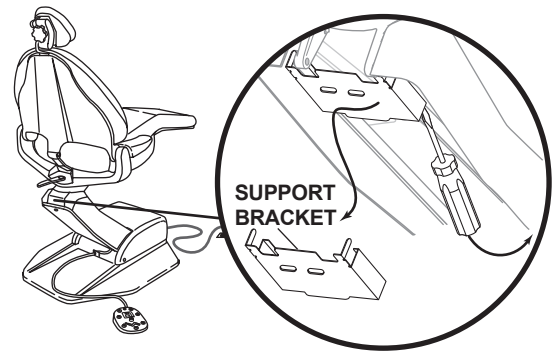

FIGURE 5
3. If there is a support bracket, remove it using a large screwdriver (see Figure 5). Set it aside.